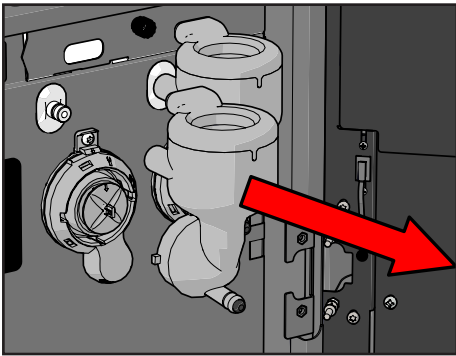

Figure 40.
10. Pull the mixing bowl and the suction ring forwards to remove them from the motor (see Figure 40).